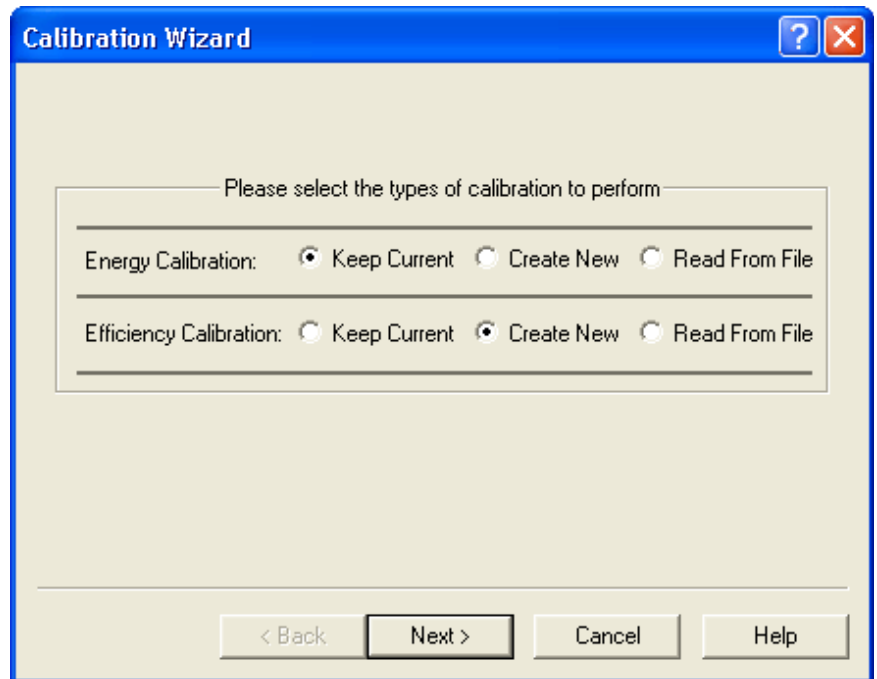

Figure 37. Calibration Wizard Opening Screen.
Figure 37 shows the first calibration wizard screen. The options for each type of calibration are to **Keep Current**, **Create New**, or **Read From File**.
3. Select **Calibrate/Calibration Wizard...** This will display the opening screen (see Fig. 37).
2. Select **Calibrate/Calibration Wizard...** This will display the opening screen (see Fig. 37).